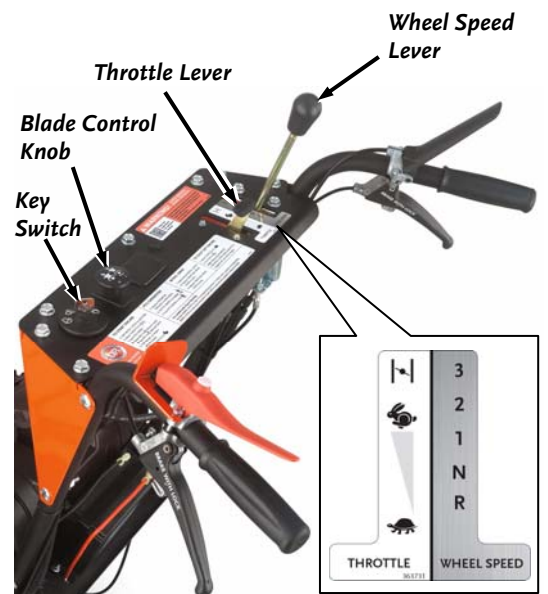

Figure 15
1. Move the Wheel Speed Lever to Neutral **N** (**Figure 15**).
3. Move the Throttle Lever to Choke  (to Fast  if the Engine is already warm) (**Figure 15**).
1. Move the Shift Lever to Neutral **N** (**Figure 15**).
- When the Engine starts, move the Throttle to the Fast  position (**Figure 15**).